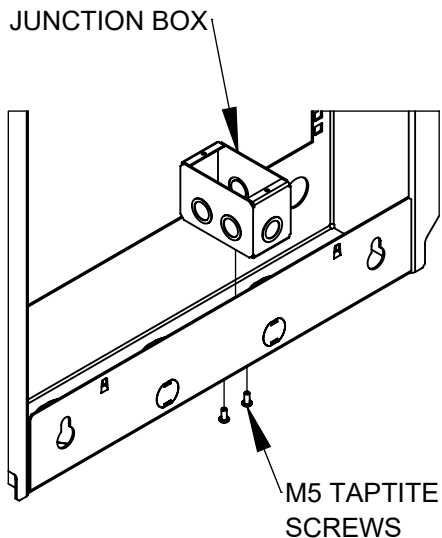

Fig. 3
The included Junction Box (Fig. 3) is installed onto the bottom of the Rear Chassis using the (2) included M5 Taptite Screws and a T25 Torx Driver. Due to offset mounting holes, note the orientation of the Junction Box before removing knockouts to ensure proper installation. The Junction Box must be installed before the Universal Accessory Panel.